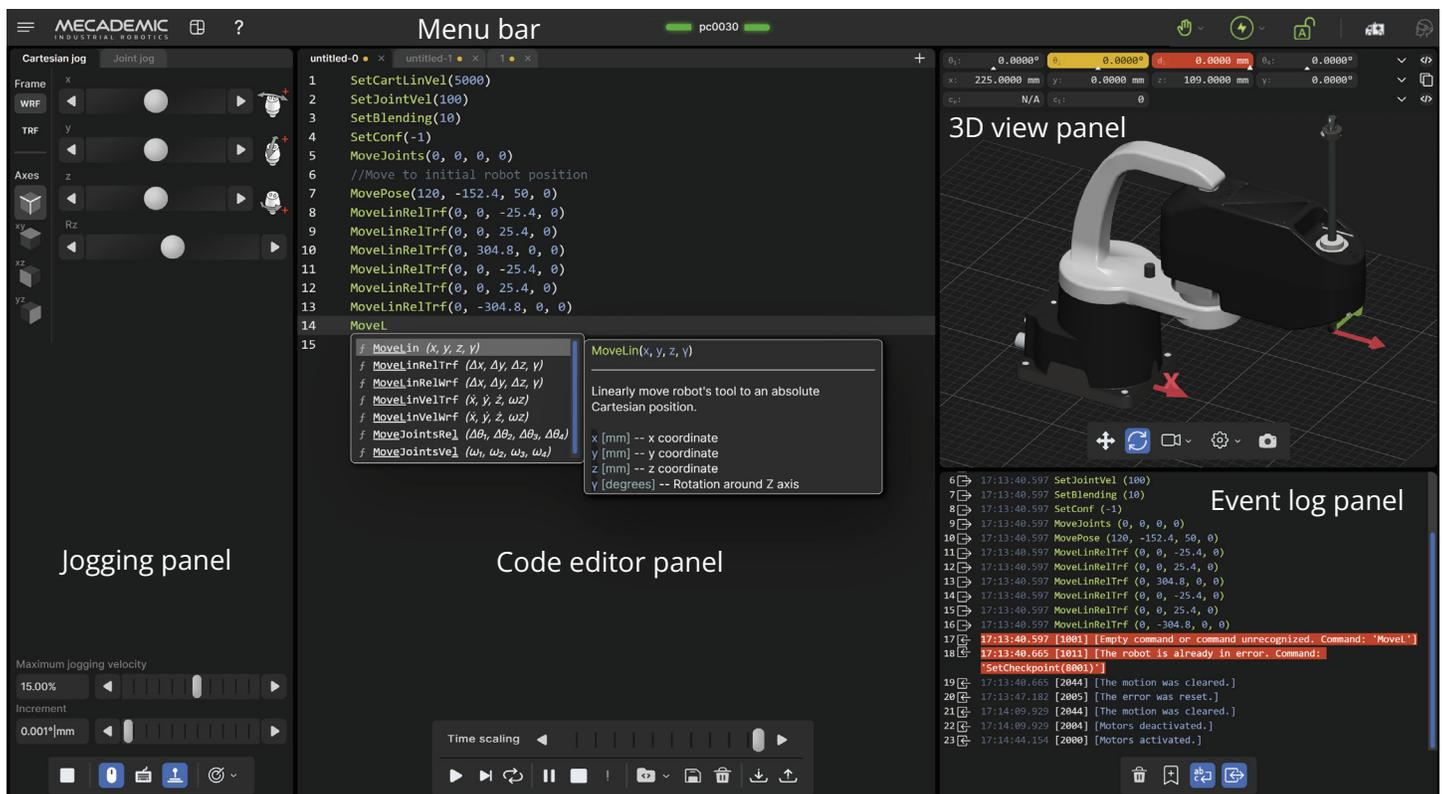

Figure 13: Overview of the MecaPortal (some features are patent pending)
2. Meca500's web interface, called MecaPortal, should load instantaneously (Figure 13). The MecaPortal will be described in detail in Section 6.
1. Click on the connection state button on the top right of the MecaPortal and select  "Control" (see Figure 13).
The Cartesian coordinates displayed above the robot in the web interface are those of the Tool Reference Frame (TRF) with respect to the World Reference Frame (WRF). Both frames are displayed in the web interface. By default, the TRF is located at the mechanical interface of the robot (as in Figure 27) and the WRF at the bottom of the robot's base (as in Figure 13). The origin of the TRF is called the TCP (Tool Center Point).
Figure 13 shows the main elements of the MecaPortal web interface. These are: